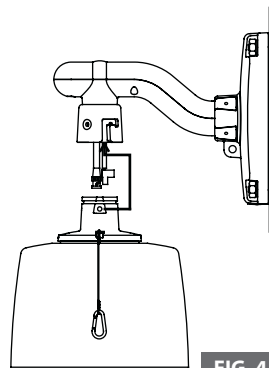

FIG. 4
- Fit the Outdoor Bracket into the groove of the Wall Mount Bracket as FIG. 4.